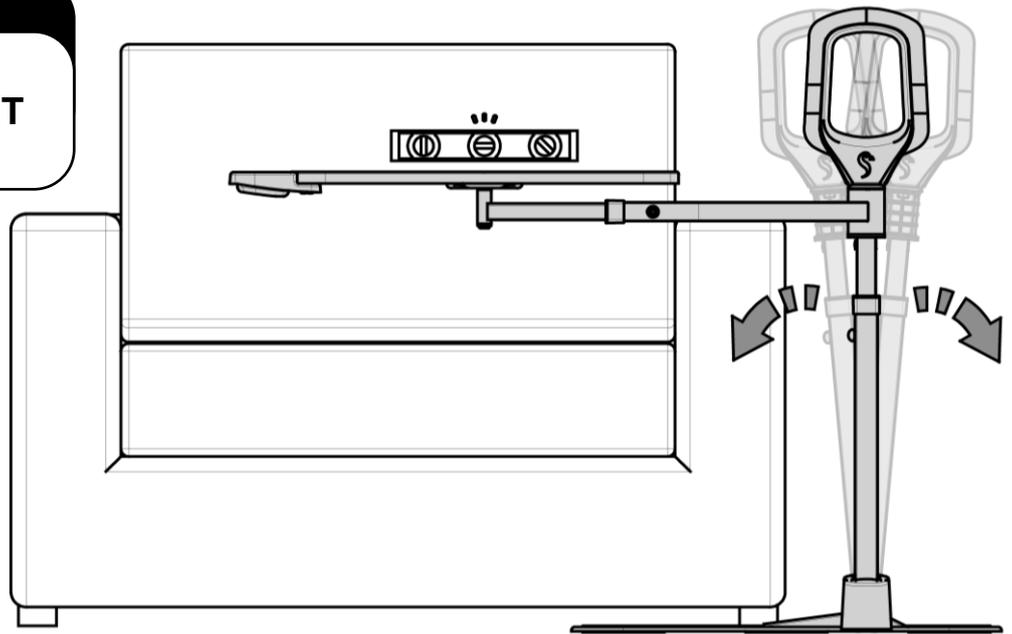

FIGURE 30
30. Level Tray as shown in *FIGURE 30*, by moving Upright, not Tray.